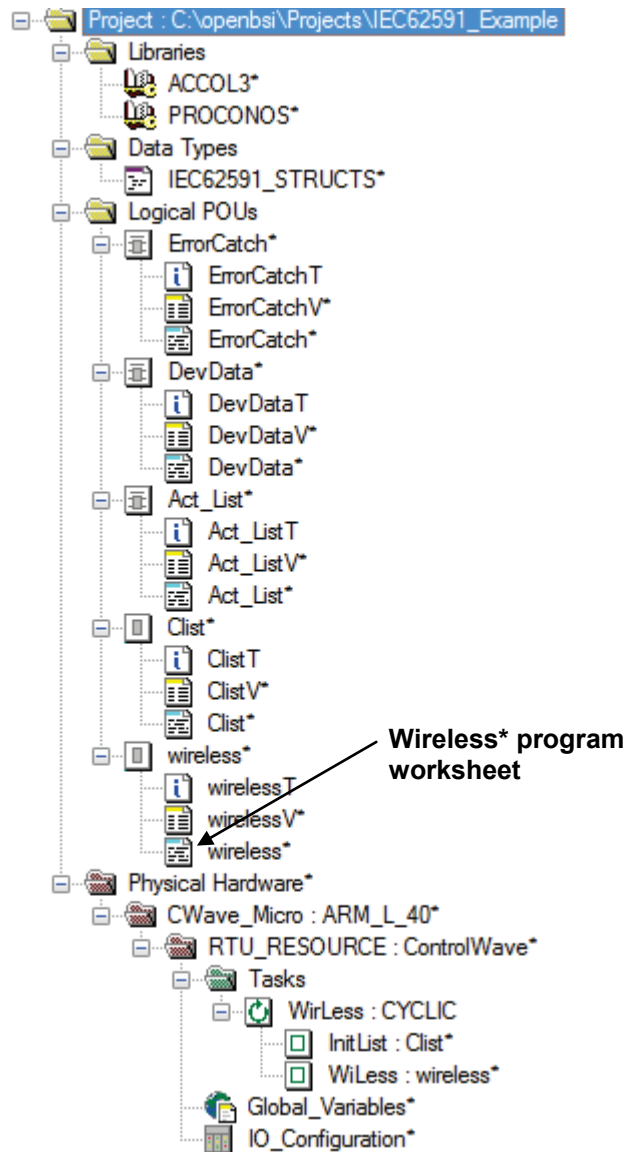

Figure 4-2. IEC 62591 Example – Project Tree
3. If not already there, navigate to the OpenBSI/Projects area and open the file IEC62591\_Example.mwt. When you open the project, you can see the project tree. (See *Figure 4-2*.)